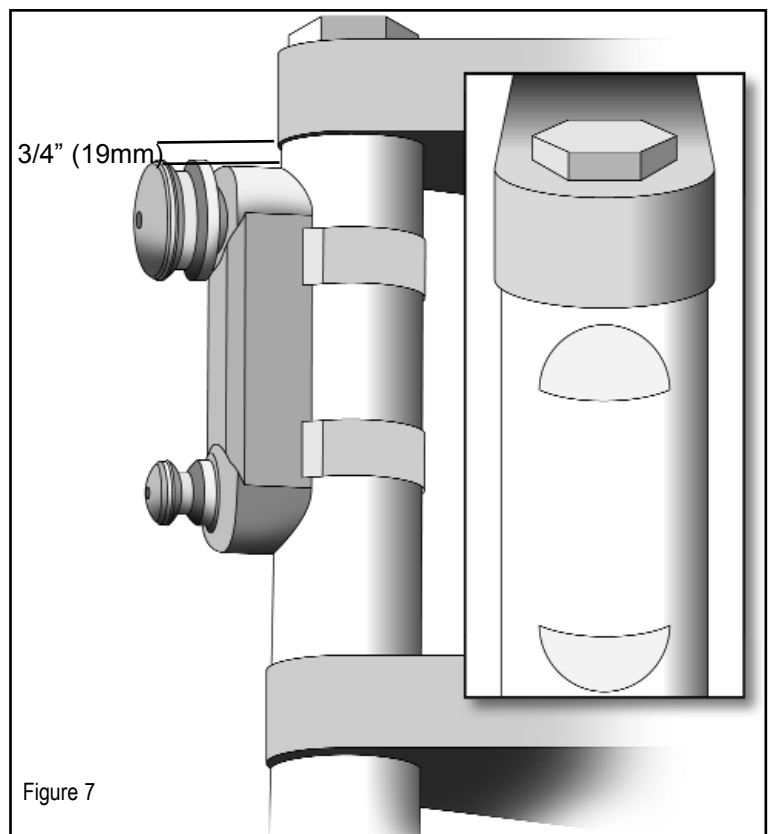

Figure 7
12. Adjust the top edge of the Mounting Cup to be 3/4 inch (19mm) from the upper triple clamp. **Figure 7.**